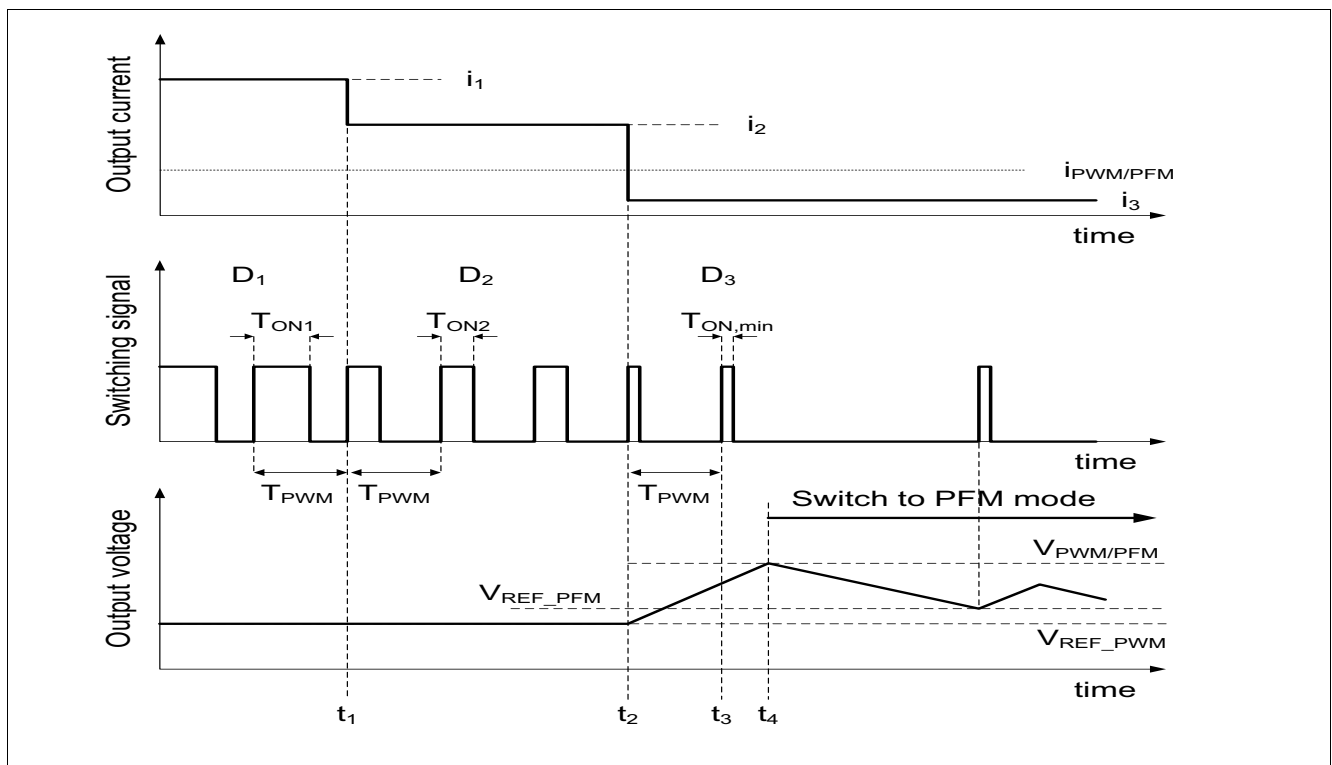

Figure 4 PWM to PFM Transition (Timing Diagram)
**Figure 4** is showing the transition from Pulse Width Modulation to Pulse Frequency Modulation under the assumption, that the input voltage  $V_S$  will be constant and only the output current  $I_{CC}$  will vary. The diagram shows the principle, in reality the signals might look slightly different. The diagram is without scale in respect of time, voltage and current values.